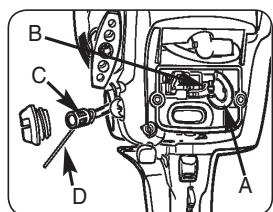

Fig. 15
5. Reconnect fuel hose (A) to carburettor fitting (B). Replace air filter and air box cover (Fig. 15).